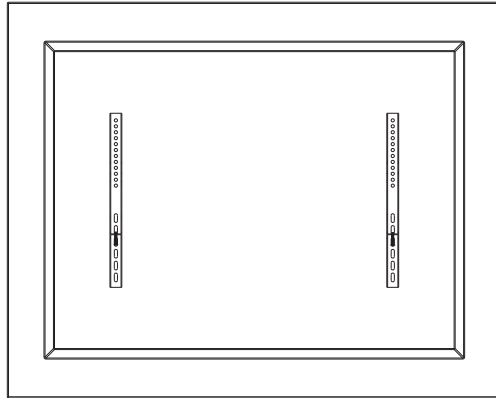

fig. 2.1
- Place screen face side down. Place adapter brackets on the back of screen, align to holes, as shown in fig. 2.1.